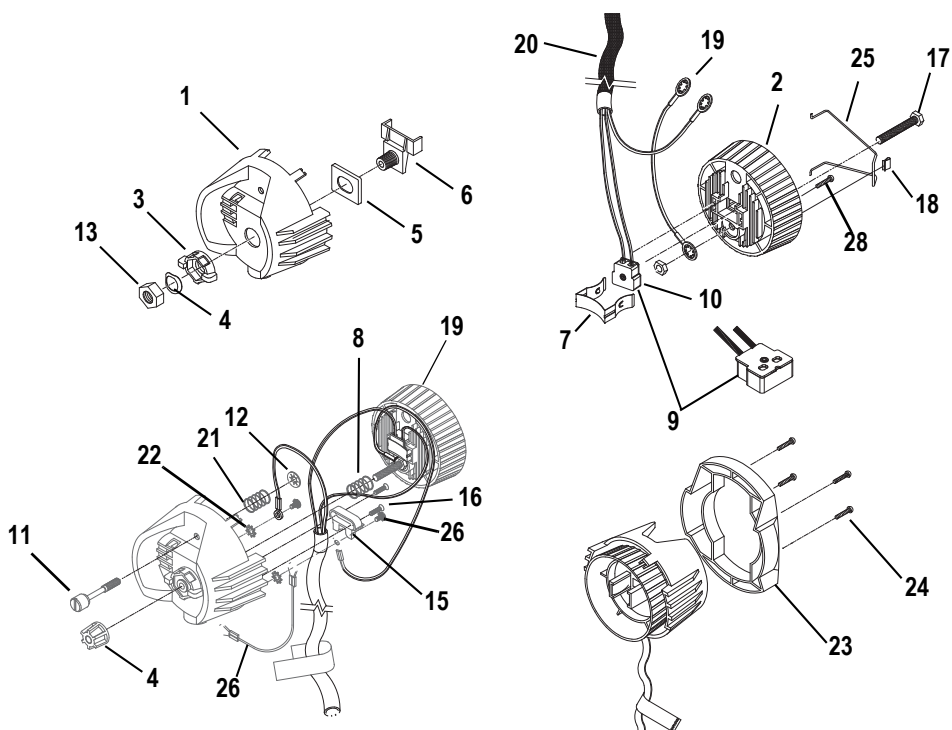

Figure 3
Step 23: Using the four screws (24), attach the handle (23) to the lamp socket assembly. See Figure 3.